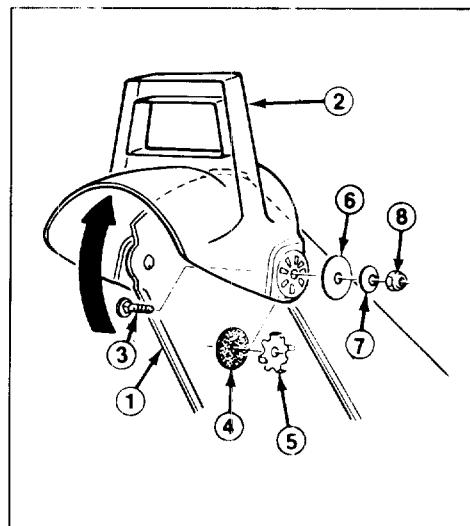

Figure 12
2. Secure left side of deflector to discharge chute using parts as illustrated (Fig. 12). Make sure rubber washer and friction plate are positioned between chute and deflector and friction plate tabs fit into holes in deflector. See Figure 12 for proper installation sequence of parts.